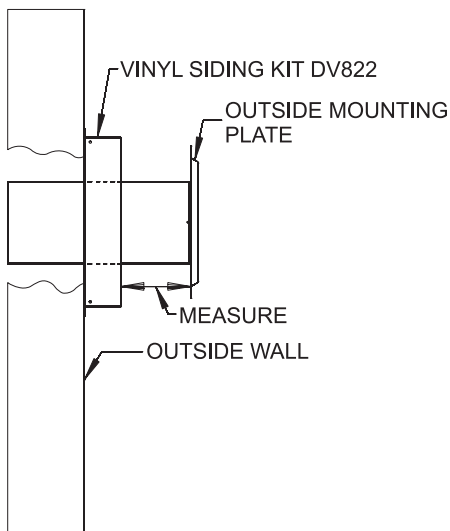

Figure 60
- With the vinyl siding kit installed to wall (if necessary), insert the 6 5/8" (168 mm) diameter tube with outside mounting plate attached through hole in wall. Connect to collar on fireplace or rigid vent system. Measure between wall or vent cap extension and outside mounting plate. **See Figures 60 and 61.**